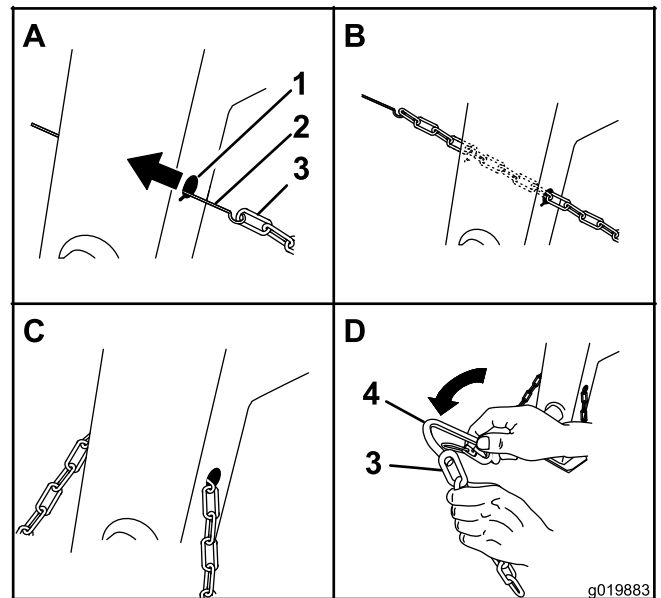

Figure 5
1. Form a hook on the end of a bendable piece of rod or stiff wire (not included), and insert it through both keyholes in the front post of the machine (Figure 5).
2. Attach the safety chain to the length of rod or wire (Figure 5).
3. Pull the rod, or wire, and the safety chain through both keyholes (Figure 5).
1. Align the connecting link to the last link in one end of the safety chain (Figure 5).
2. Insert the connecting link through the chain link until the connecting link snaps closed (Figure 5).